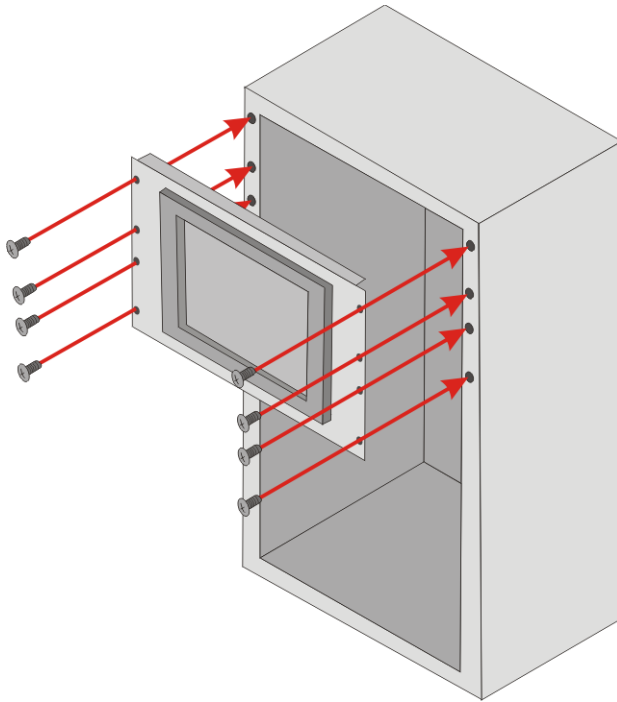

Figure 3-32: Install into a Rack/Cabinet
Step 4: Slide the 2901230 flat panel PC with the attached rack/cabinet bracket into a rack or cabinet (**Figure 3-32**).
Step 5: Once the 2901230 flat panel PC with the attached rack/cabinet bracket has been properly inserted into the rack or cabinet, secure the front of the rack/cabinet bracket to the front of the rack or cabinet (**Figure 3-32**).